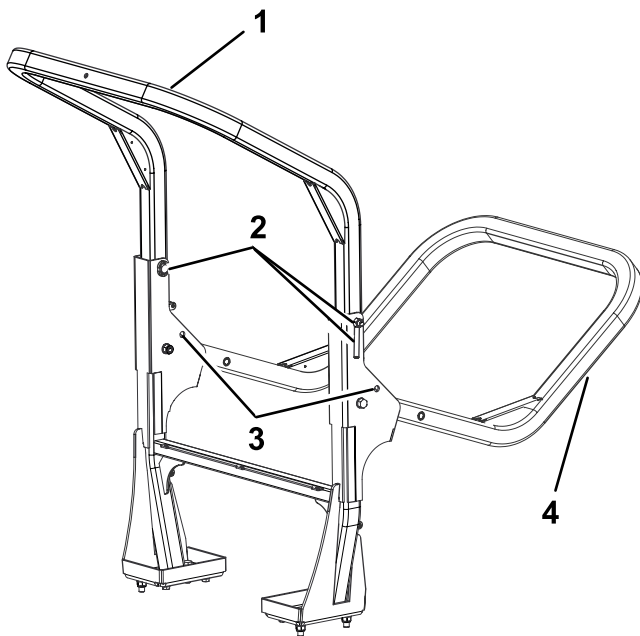

Figure 27
2. Support the weight of the upper frame of the roll bar while removing the snap pins and clevis pins from the pivot brackets (Figure 27).